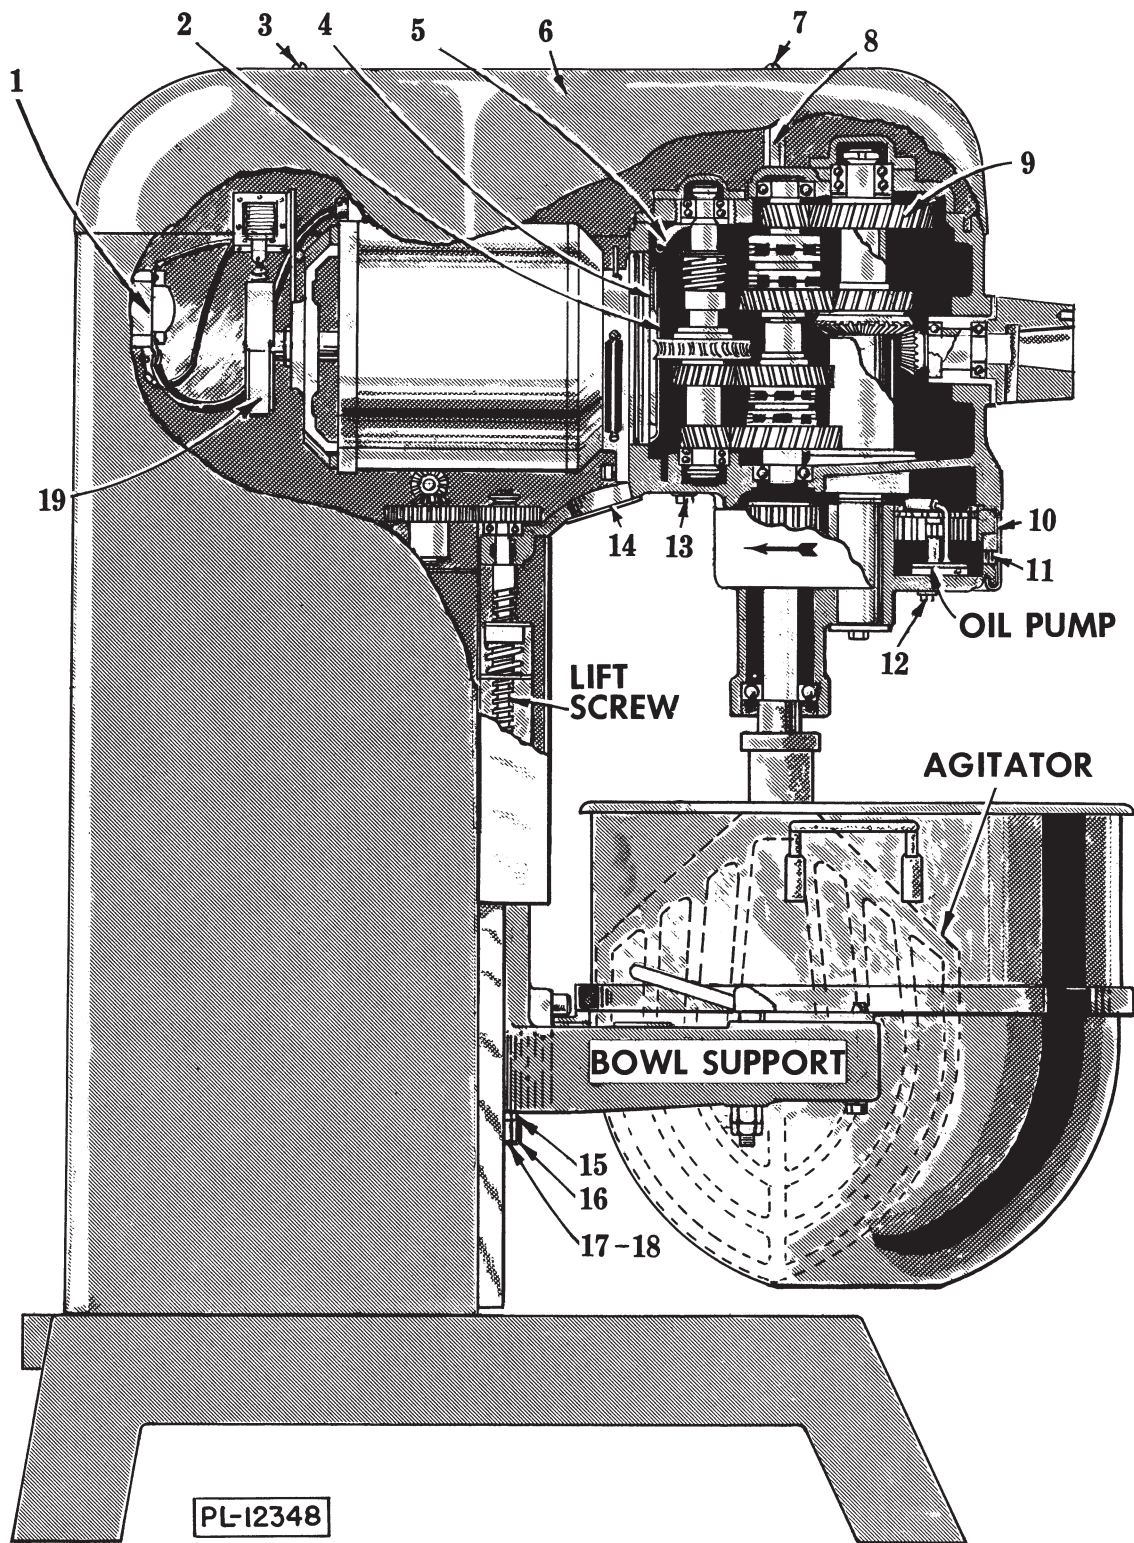

Fig. 1
Before making the electrical connections, read the specifications on the name plate to make sure that they agree with those of your electric service. Remove the top cover, which is held in place by two screws (3 and 7, Fig. 1). Bring the power line in through the hole at the top of the pedestal, and connect to the motor controller (1, Fig. 1). This is the only connection required. Three-phase machines must be so connected that the planetary runs in the direction shown by the arrow in Fig. 1.
A. **TO FILL THE TRANSMISSION** remove the front support for the top cover which serves as the oil-fill plug (8, Fig. 1). Use only the special transmission oil that is shipped with the machine. The oil level should be somewhere between the center and top of the oil gage for correct lubrication. If the oil level falls below the gage line when the motor is running, add more oil. While the machine is running, look down the oil-fill and make sure that oil is pouring out of the delivery tube onto the gear face.
1. Remove drain plug (12, Fig. 1) to check on previous draining of the planetary. Then replace.
2. Remove the drip cup (10, Fig. 1), which is held by two screws.
The gearing is located on the handwheel bracket inside the pedestal. Remove the top cover (6, Fig. 1) and wipe some grease on the gear teeth. Protect yourself from the electrical supply at the starter. The handwheel shaft may be oiled through an oiler on the handwheel bracket.
2. The oil level in the planetary should be up to the filling opening. It will be necessary to take off the drip cup and remove the plug (11, Fig. 1) to check this.
Adjustment should always be made with the bowl and type B beater in place. Remove the "caplug" cover (17, Fig. 1) and loosen the bumper stop (16, Fig. 1). Next loosen the lock nut (15, Fig. 1) and turn the screw (18, Fig. 1). Be sure to re-tighten the lock nut and the bumper stop and re-assemble the "caplug" after the proper adjustment has been obtained.
In 4th speed, the brake (19, Fig. 1) should stop the planetary in about one revolution.